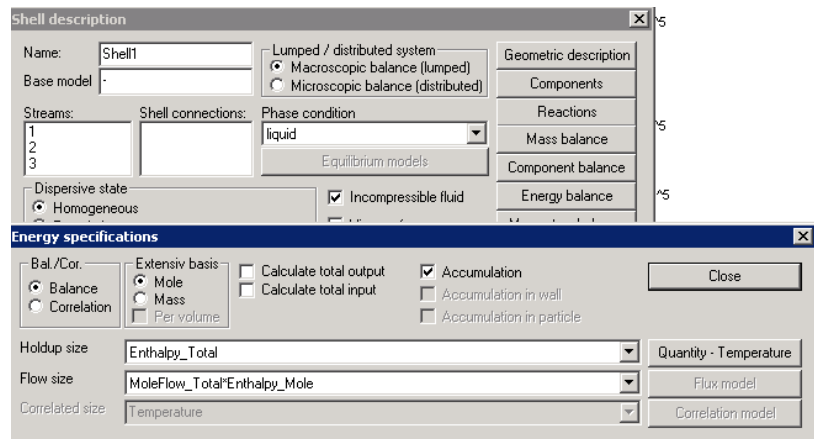

Figure 24: Energy specification for shell.
Step1: Add energy holdup – Double click on the shell and then select “energy balance”. In the “energy balance” tool, select “accumulation” and exit (fig. 24).